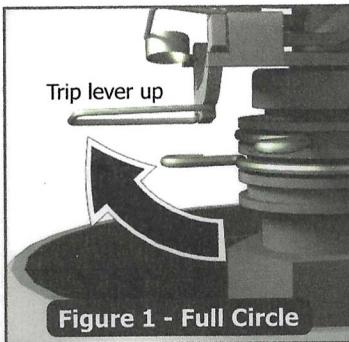

Figure 1 - Full Circle
**Full circle:** Flip trip lever up to allow sprinkler to rotate 360° (see **Figure 1**).